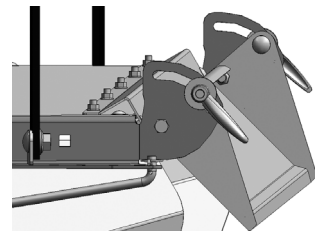

Figure 3
- 3) **Rear Baffle Adjustment.** See Figure 3